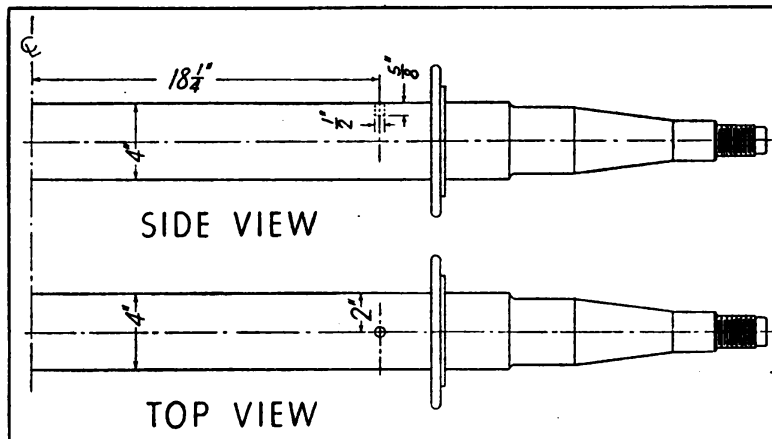

FIGURE 12. AXLE DOWEL PIN LAYOUT—DOLLY.
1. **GENERAL DESCRIPTION.**—Dolly and semi-trailer are identical in construction and are interchangeable providing dowel pin holes are redrilled according to dowel pin layout (Figs. 12, 13). Checking for camber, checking for bend, all disassembly, reassembly and maintenance procedures are identical, unless otherwise stated.
b. When installing new axle make certain dowel pin holes are drilled in top side of axle (Fig. 12).